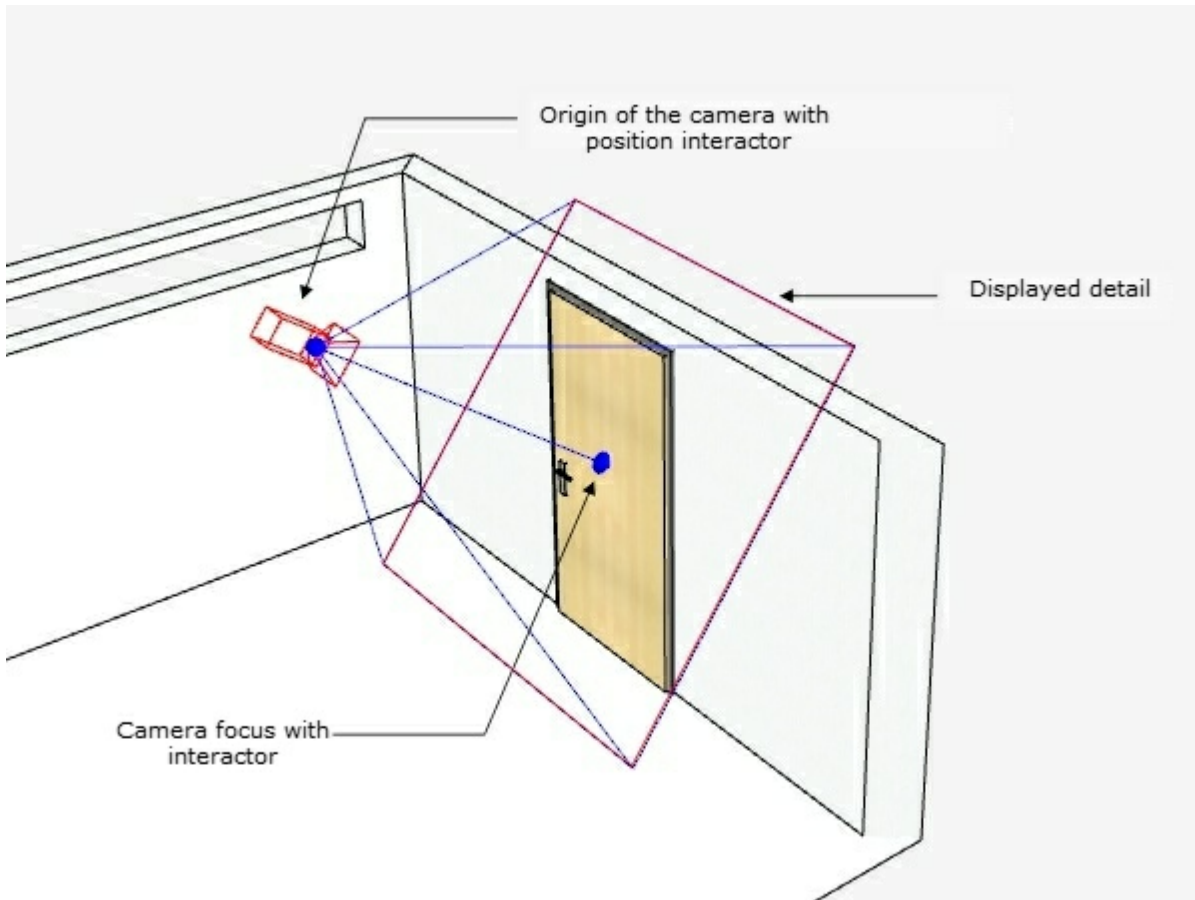

Figure 3
- The **blue circle** that will immediately show up on your planning indicates the **center of the new camera view – the camera focus** (see figure 3).
Figure 3 shows the origin of the camera, the camera focus and the displayed detail - marked with red lines.